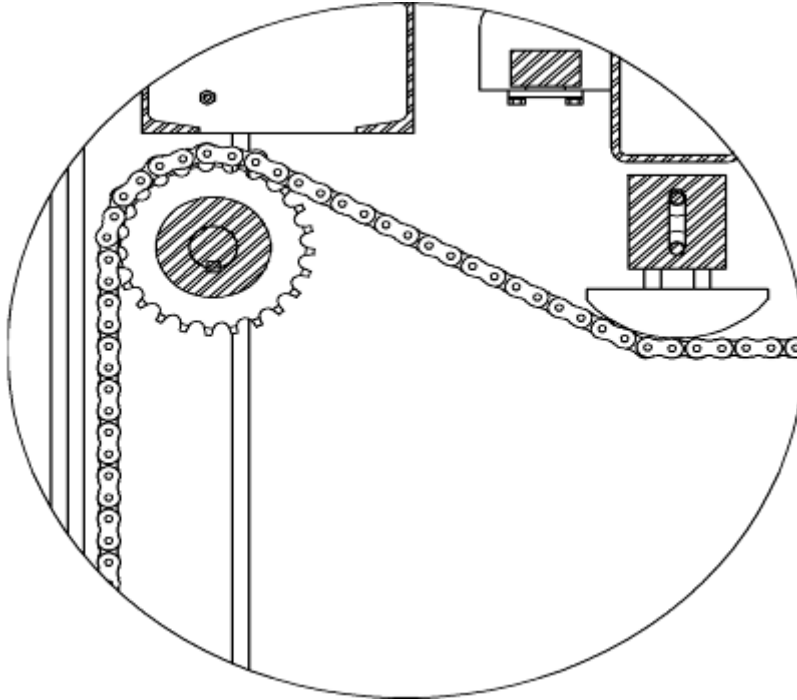

Figure 20 Routing Chain Beneath Spring Tensioner – Outer Chain
- Route the chains beneath the tensioners as shown in **Figure 20** while bringing the ends of the chain halves together near the center of the chain path. Remove as many links as possible to maximize tension in the chain – while making sure that Inside and Outside chain paths have an equal number of links between the sprockets.